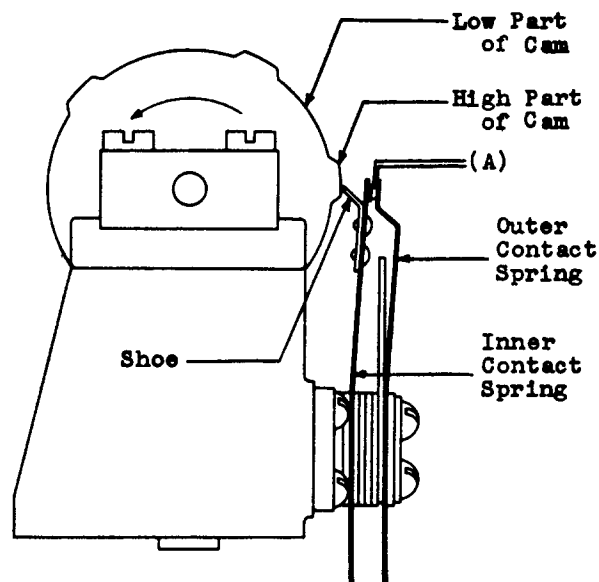

Fig. 4 - High-speed Cam Assembly
2.10 Contact Pressure: Fig. 4(A) — With the shoe of the inner contact spring on the *high* part of the cam, the contact pressure be-